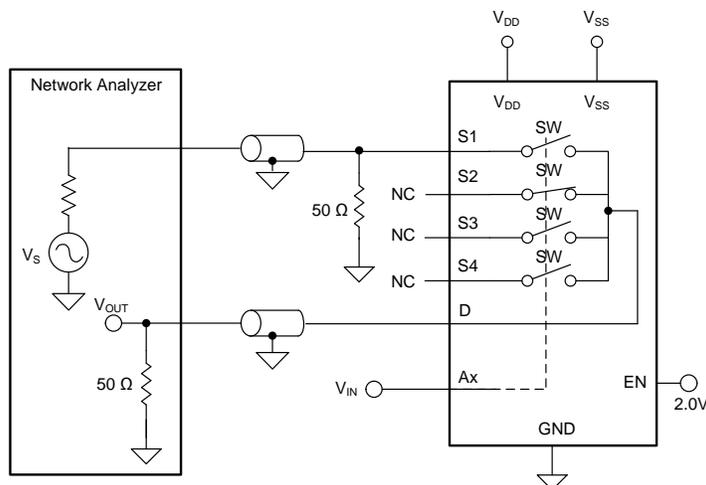

Figure 24. Off Isolation Measurement Setup
Off isolation is defined as the voltage at the drain pin (D) of the TMUX6104 when a 1- V_{RMS} signal is applied to the source pin (Sx) of an off-channel. Figure 24 shows the setup used to measure off isolation. Use Equation 2 to compute off isolation.